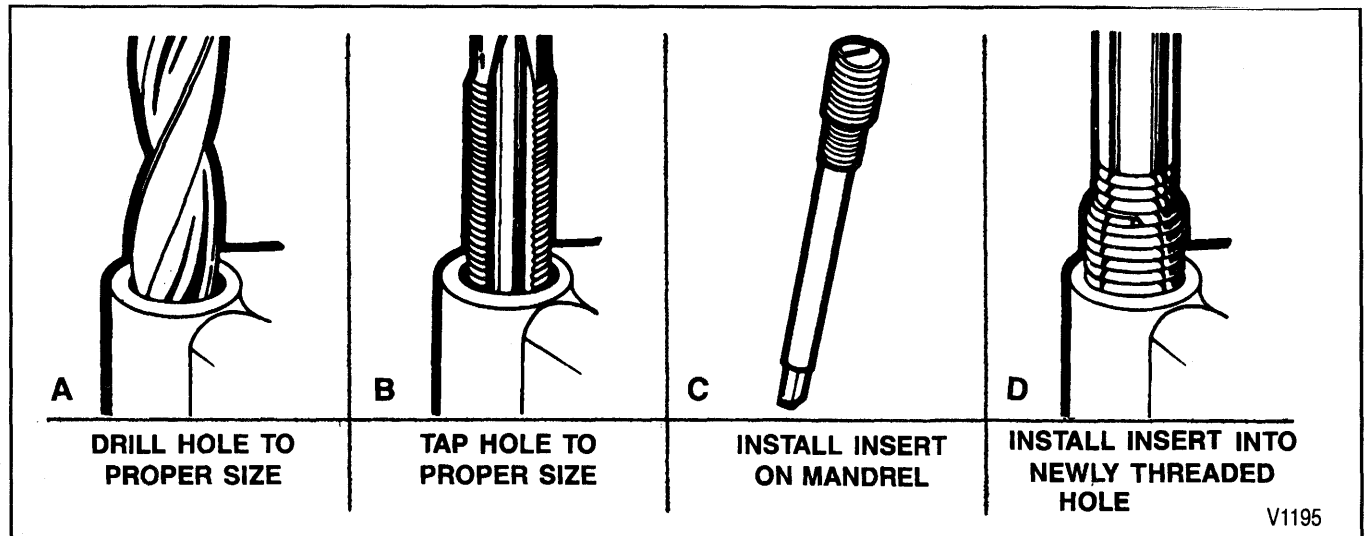

Figure 54—Repairing Thread Holes
4. Thread the thread insert onto the mandrel of the installer (figure 54). Engage the tang of the insert onto the end of the mandrel.